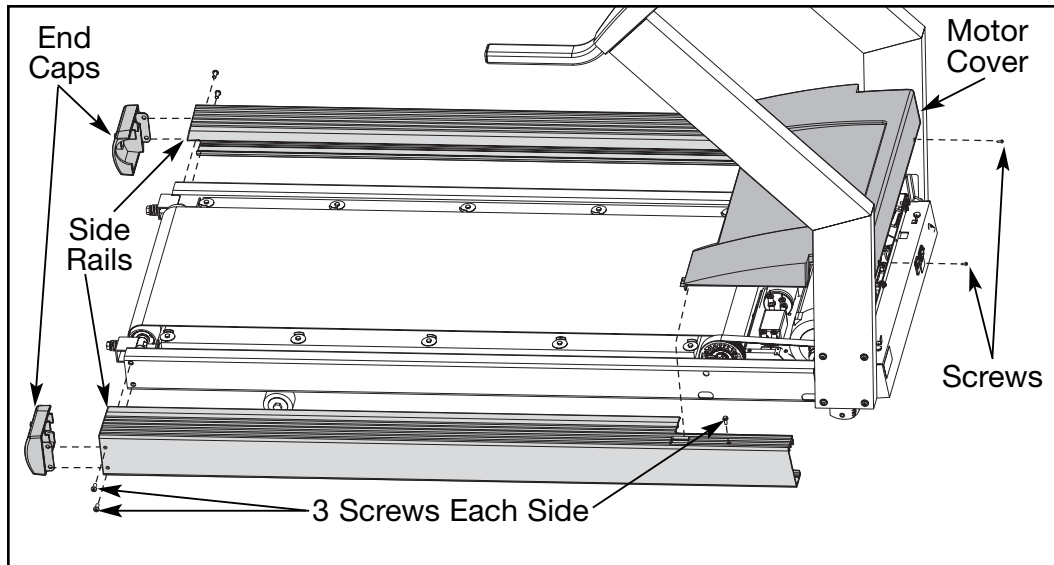

Figure 2
- A.** Turn the main power switch on the front panel to the off (O) position.
- A.** Remove the two Phillips head screws that fasten the motor cover to the frame. Lift the cover and set it aside. This will allow you to remove the side rails. See Figure 2.
- B.** Using a 3/16" Allen wrench, remove the two button head screws on the sides of each side rail. See Figure 2.
- C.** Using a flat head screwdriver, remove the screw on the top of each side rail. See Figure 2.
- B.** Using a flat head screwdriver, attach the screw on the top of each side rail. See Figure 2.
- C.** Using a 3/16" Allen wrench, attach the two button head screws on the sides of each side rail. See Figure 2.
D. Lower the motor cover in place and tighten the two Phillips screws. See Figure 2.